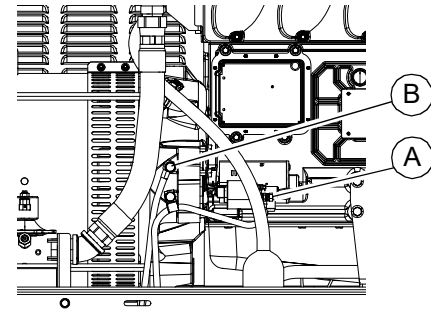

Figure 3-2. Battery Cable Connections (Typical)
2. See **Figure 3-2**. Install battery (C) onto tray.